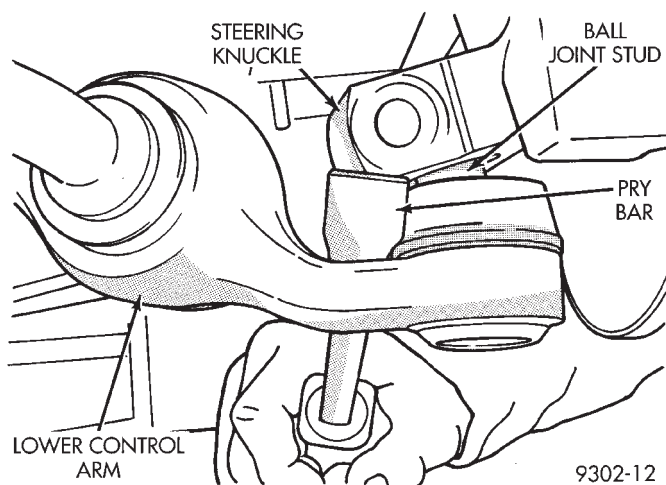

Fig. 11 Separating Ball Joint From Steering Knuckle
(11) Carefully insert a pry bar between lower control arm and steering knuckle (Fig. 11). Push down on pry bar to separate ball joint stud from steering knuckle (Fig. 11). **Note: Use caution when separating**